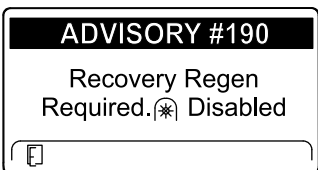

Figure 58
- Recovery regeneration required—power takeoff disabled ADVISORY #190 (Figure 58)